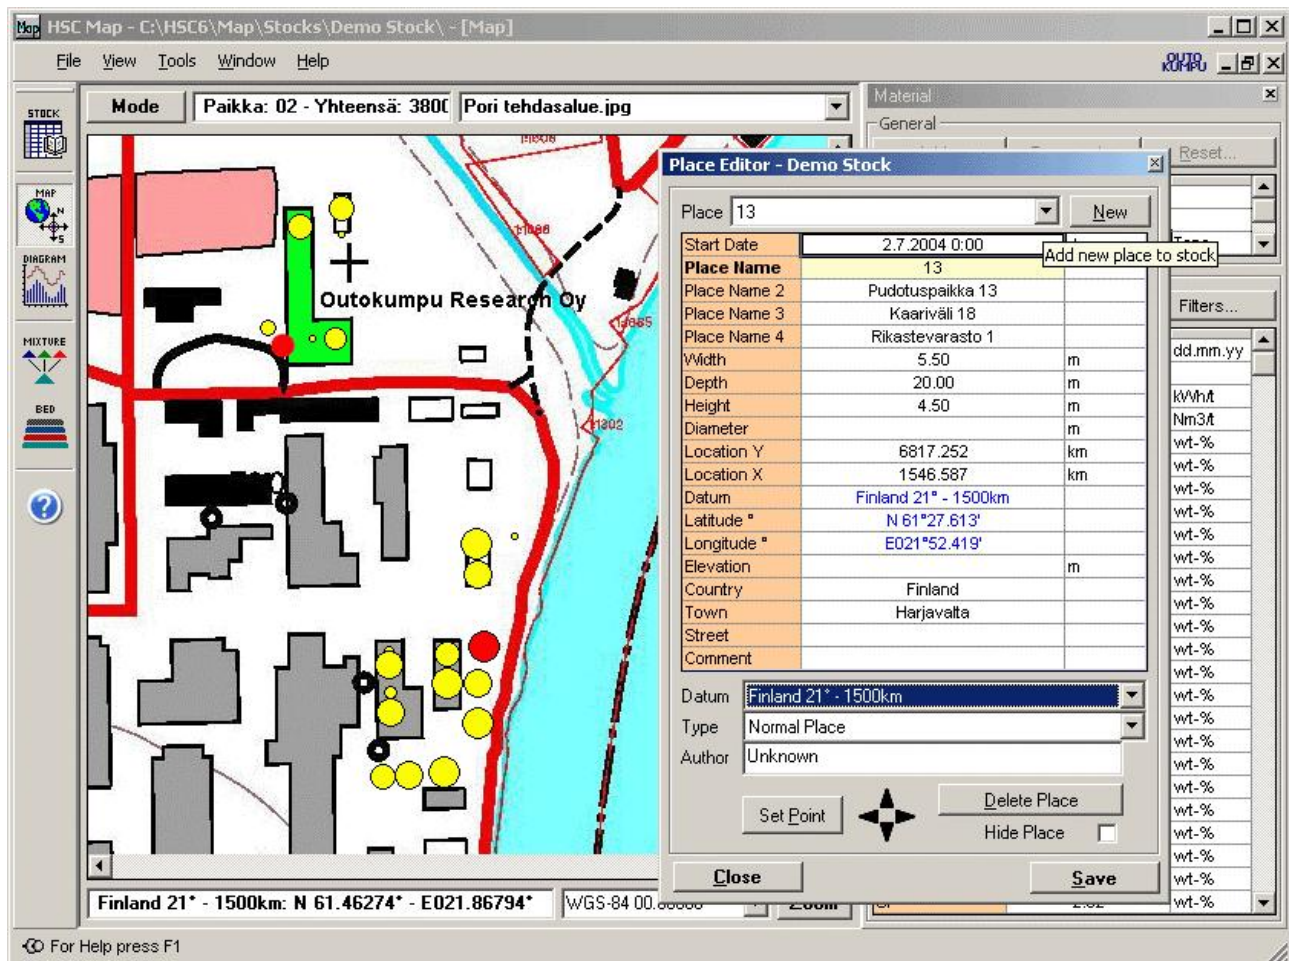

Fig 14. HSC Map Place Editor makes it possible to edit existing places and create new ones.
The default stock that is delivered with the HSC Map CD usually contains the main stock places. However, the user may easily add new stock places using the “Tools, Manage Places...” menu selection and Place Editor tool, Fig. 14. The user may specify up to 20 properties for the place. The location properties must be specified in order to put the place on the map.
“**Add New Point**” makes it possible to create a new place by giving a name to the place. Then the other data will be specified using Place Editor, Fig. 14. Four different place types are available:
1. Select “Add...” from the Material toolbar, Fig. 14.
7. Specify the composition of the new material by typing in the Material toolbar, Fig. 14, or using the “Change...” dialog. See chapter: “54.11 Analysis Selection Dialog”.
2. Select “**Transport...**” from the Material toolbar, Fig. 14.